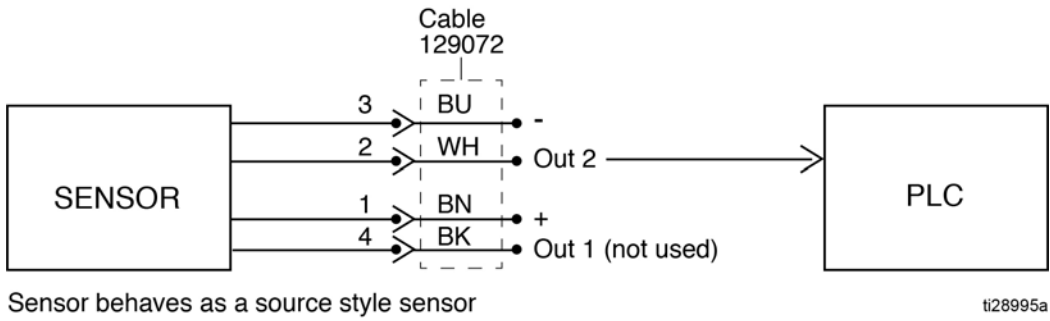

FIG. 12
**NOTE:** Graco GLC2200 (part number 24N468, Series F or later only) can be used to run the pump and monitor the low level. Refer to FIG. 12 for Low Level Sensor wiring in systems controlled with a GLC2200. A Low Level Sensor cable (part number 129072) and a GLC2200 Wiring Harness (part number 24P314) are required.